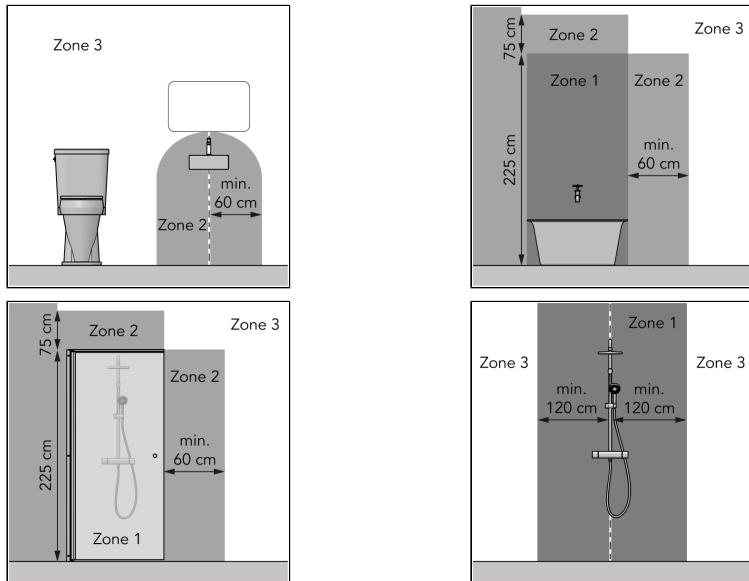

Figure 16.
- in zone 3 of a toilet room or bathroom with a bath, shower with screen or shower without screen, see Figure 16;